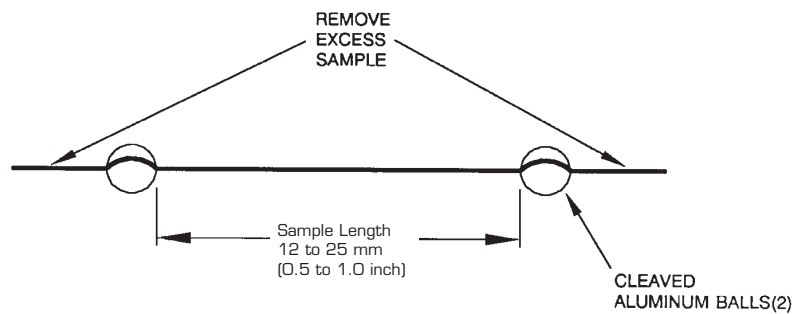

Figure 4.3
3. Lay the fiber across the balls and press the fiber into the cleavage of each ball (see Figure 4.3).